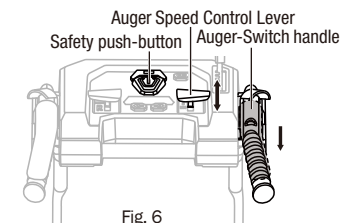

Fig. 6
2. Press the power button and press down the auger-switch handle to engage the auger (Fig.6).